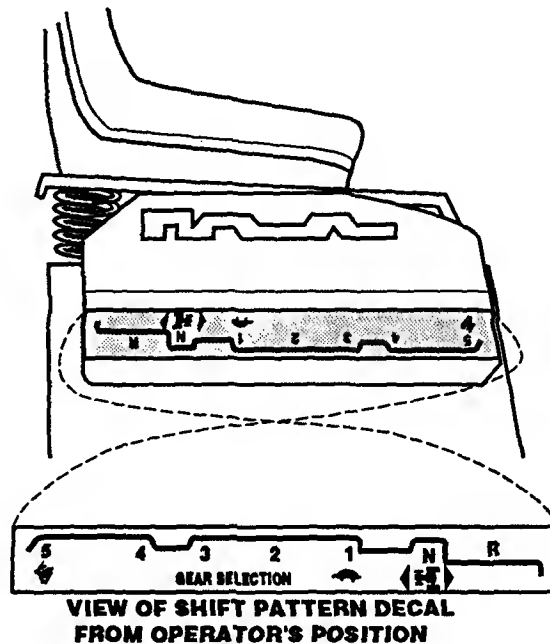

Fig. 27
neutral, or one of five forward gears. (See SPECIFICATIONS on page 6 for average speeds in some of these gears). Until you become familiar with the riding mower, use only the lower gears — either 1, 2, or 3. See Fig. 27 for detailed shifting pattern.
- ☐ 13. Place transmission shift lever into N (Neutral) (Fig. 27).
6. Move the transmission shift lever (See Fig. 27, page 18) to N (Neutral).